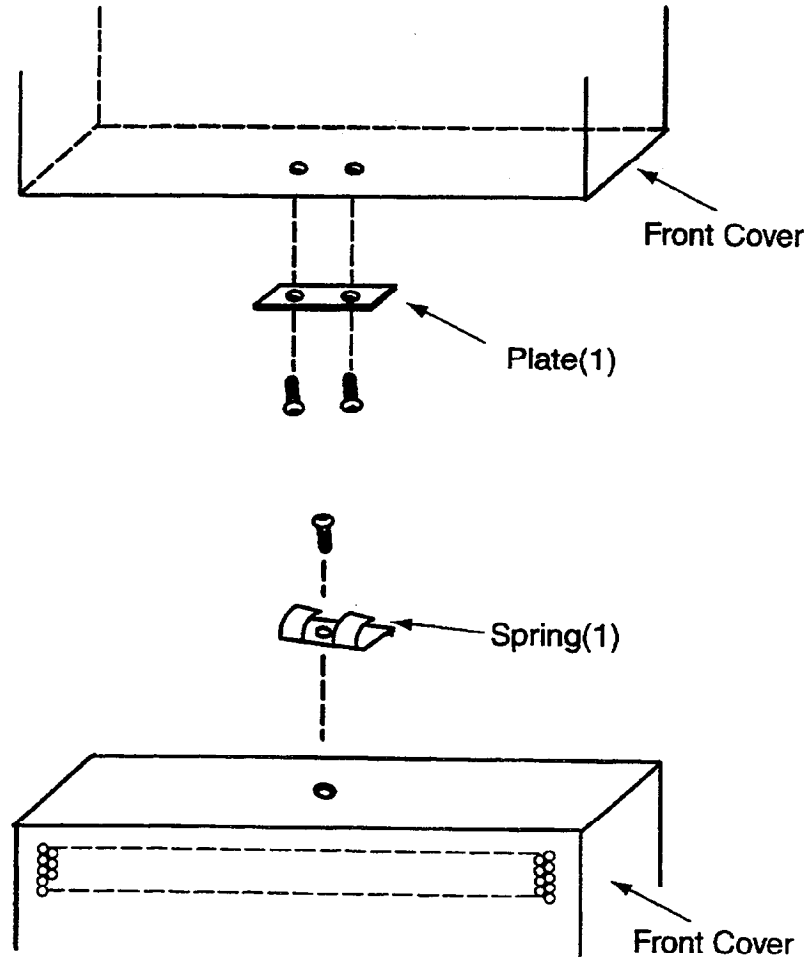

Figure 2-12 Installing the Plate and Spring on the KSU Covers
8. Install the plate and spring included with the expansion kit to the KSU covers as shown in Figure 2-12 - Installing the Plate and Spring on the KSU Covers.)